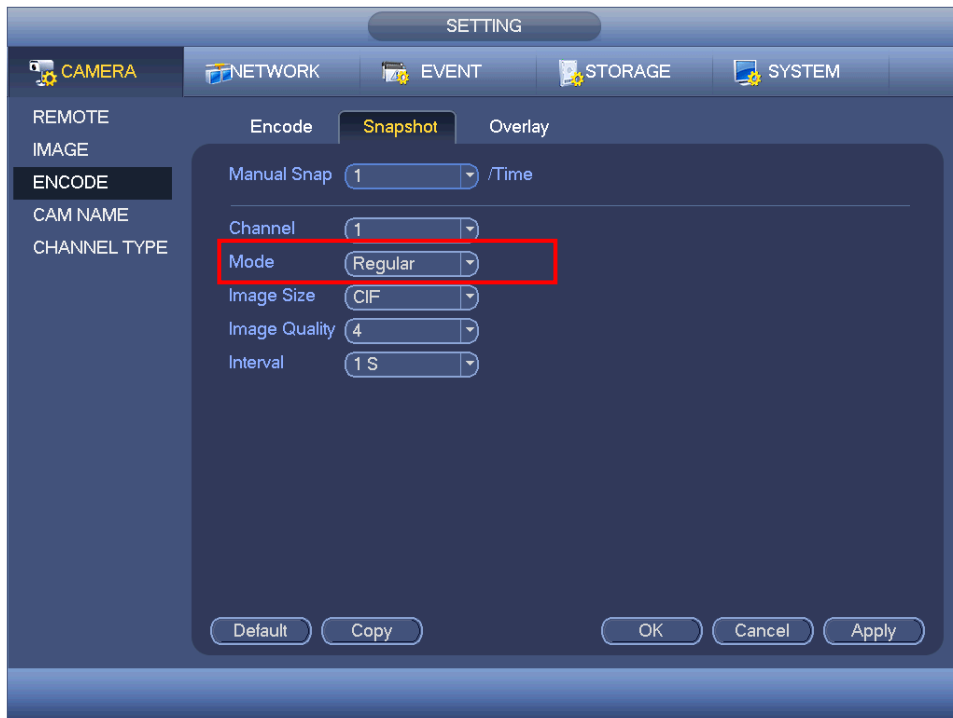

Figure 4-116
- In main menu, from Setting->Camera->Encode->Snapshot interface, here you can input snapshot mode as regular, size, quality and frequency. See Figure 4-116.